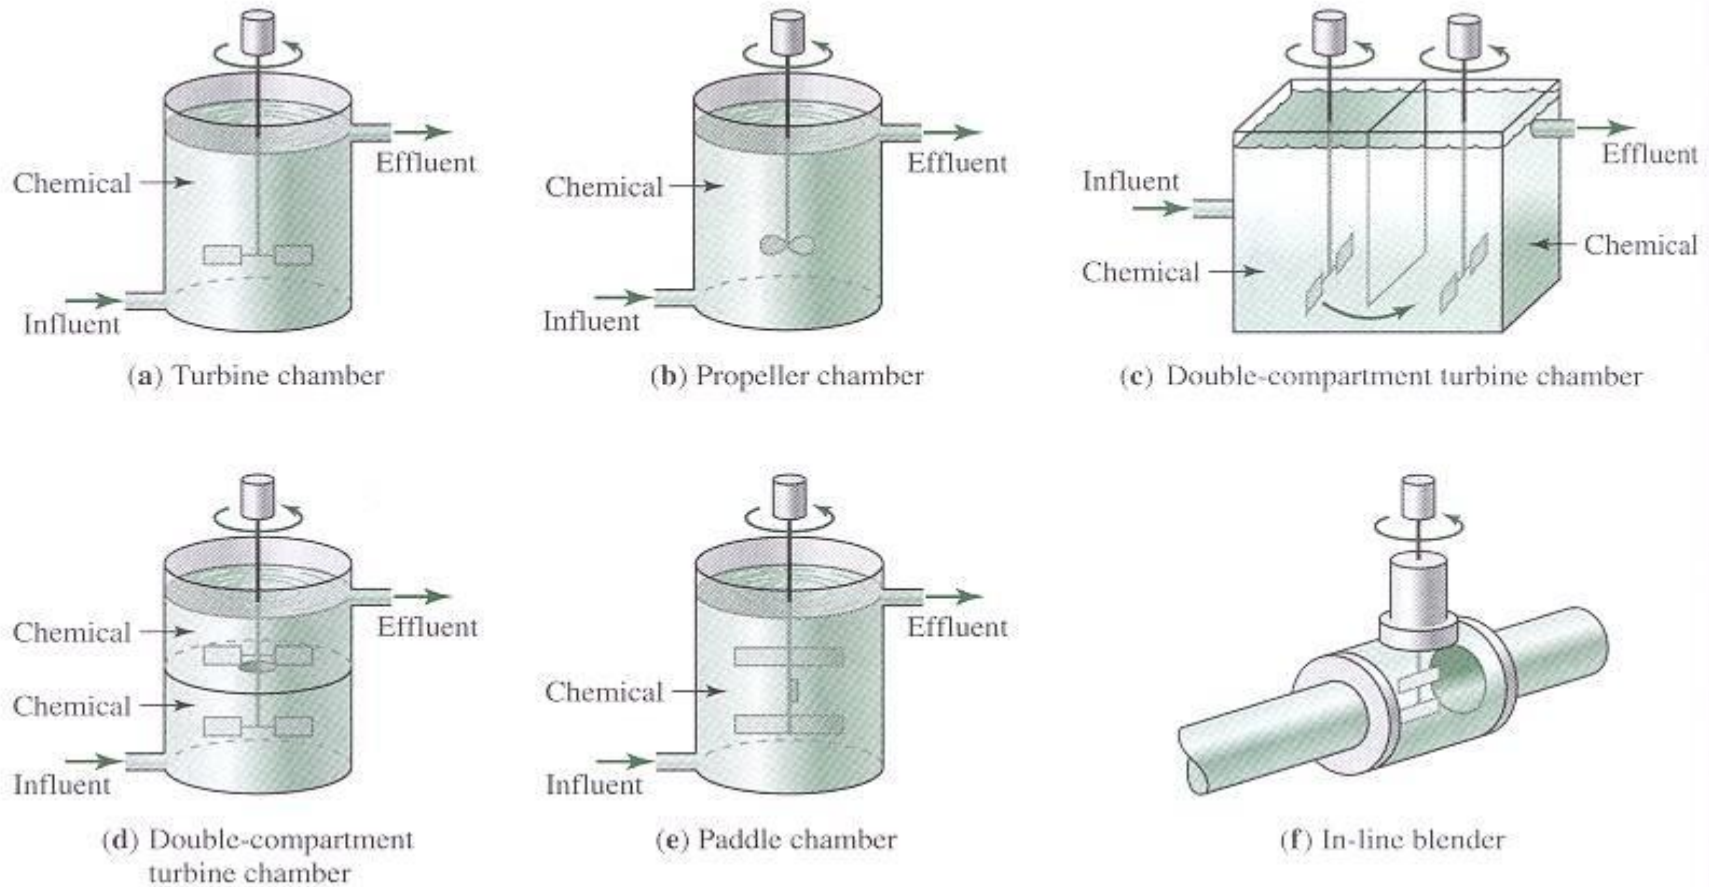

Figure 2.8
- Coagulation occurs in a rapid mixing tank such as those shown in Figure 2.8.